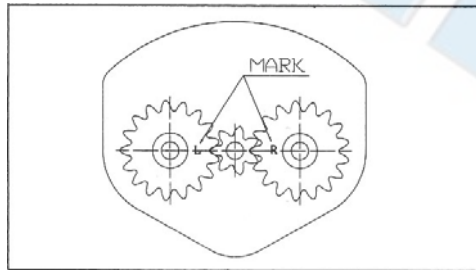

FIGURE 9
- B. Assembly gears, refer to FIGURE 9 and 10, Align gears as follows:
Notice the marks (R&L) in the gears, place "R" gear in right side, "L" gear in left side. These two marks (R&L) must be on horizontal centerline, facing toward center as shown. (FIGURE 9)